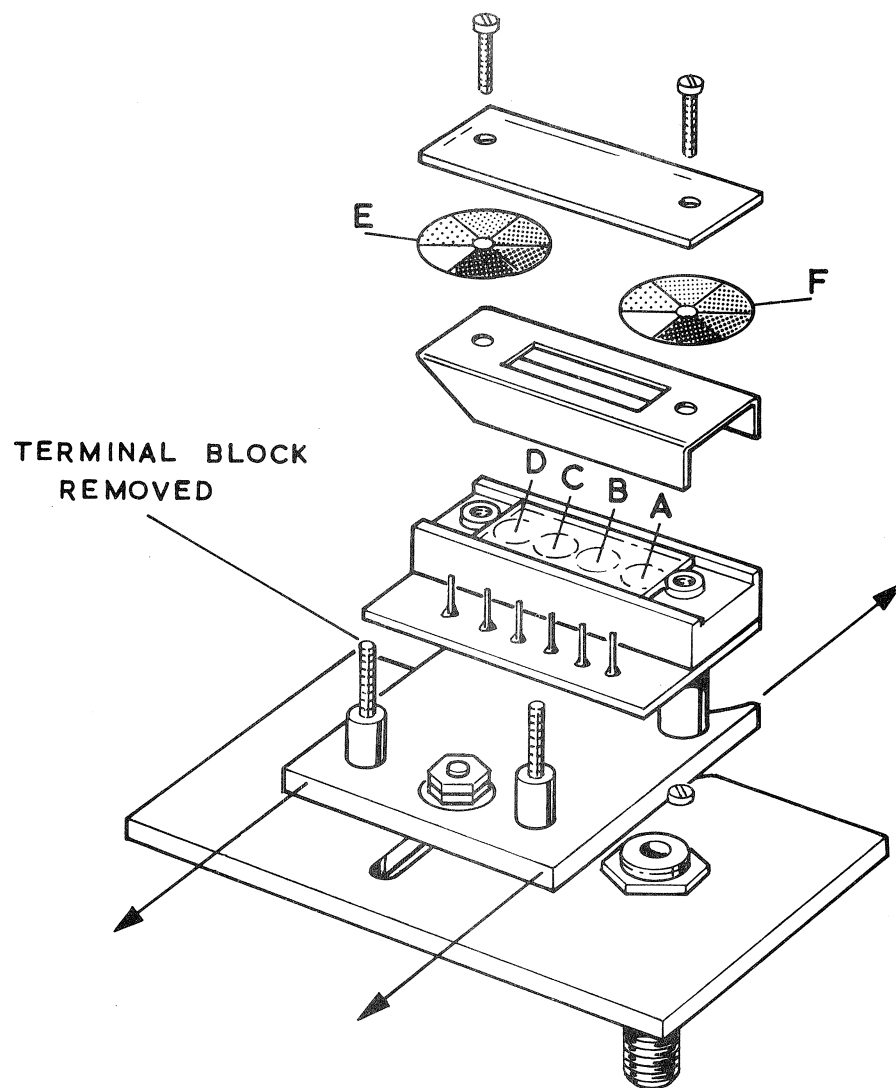

Figure 14
SIBLE (FIG. 14).
4.3.12 Although the enlarger is designed to cope with most variations of emulsion speeds which can be expected in different batches of paper, extremes may be encountered where the knob may be turned throughout its full limit without the indicator lamp lighting, or going out. If the knob is turned to 0, and the lamp is still on, then the appropriate Neutral Density (N.D.) filter disc should be rotated to place the next darker segment over the photocell. The built-in adjustable filters are calibrated up to 1.0 density. If the darkest segment is over the cell, and the lamp has still not gone out, then the N.D. filter must be augmented with an additional piece of 0.3 N.D. filter. This is fitted by removing the screws, transparent cover plate and filter disc; securing the piece of N.D. filter over the filtered cell with a strip of transparent tape; then replacing the filter disc, cover plate and screws. Conversely, if the lamp does not light, even when the filter disc is rotated to position the lightest segment over the cell, then an additional piece of N.D. filter must be fitted over the other cell of the pair (Fig. 14).